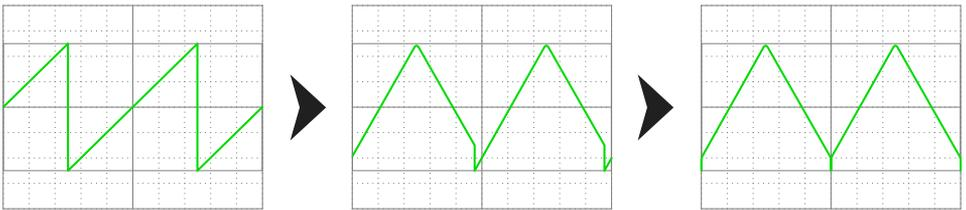

fig. 12, Effect of adjusting the TRSIADJ trimmer potentiometer
- o **TRSIADJ** controls the conversion of the ramp into a triangle, adjust this until the display shows an equilateral triangle-ish shape (fig. 12).